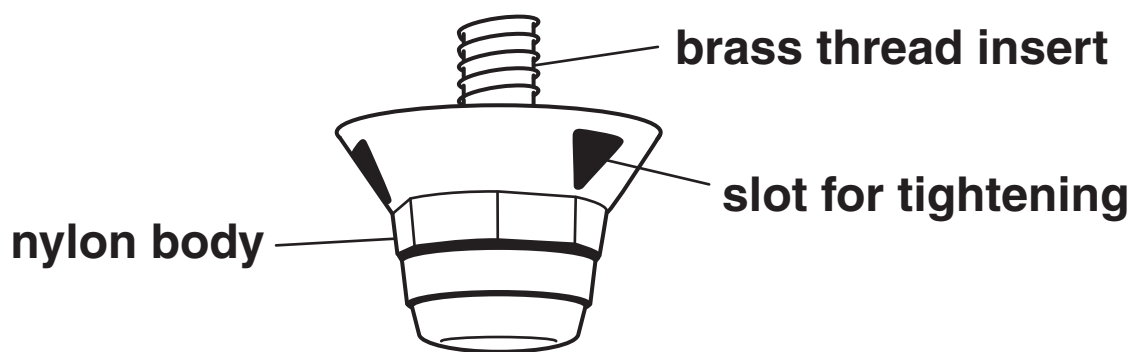

Fig. 2
- 2 Boots with screw-in studs are worn for some sports. Fig. 2 shows details of a stud.
**Give TWO quality control checks for the stud shown in Fig. 2.**